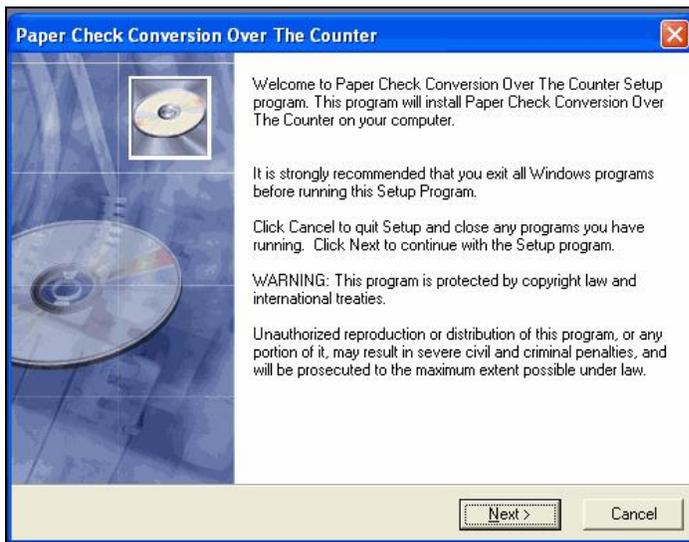

Figure 2.23
5. The system will reboot and when Windows is restarted, the following prompt will appear (Figure 2.23). Click ‘Next’.